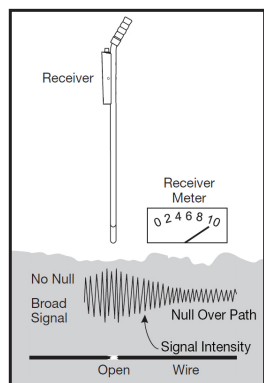

FIGURE 3: Locating End of Broken Wire
- The end of a cut or broken wire can be located by following the path until the null disappears and gives way to a hot spot. Beyond the hot spot, no null can be detected. Back up until the null is detected, and this will be the approximate end of the broken wire. (Refer to Figure 3)